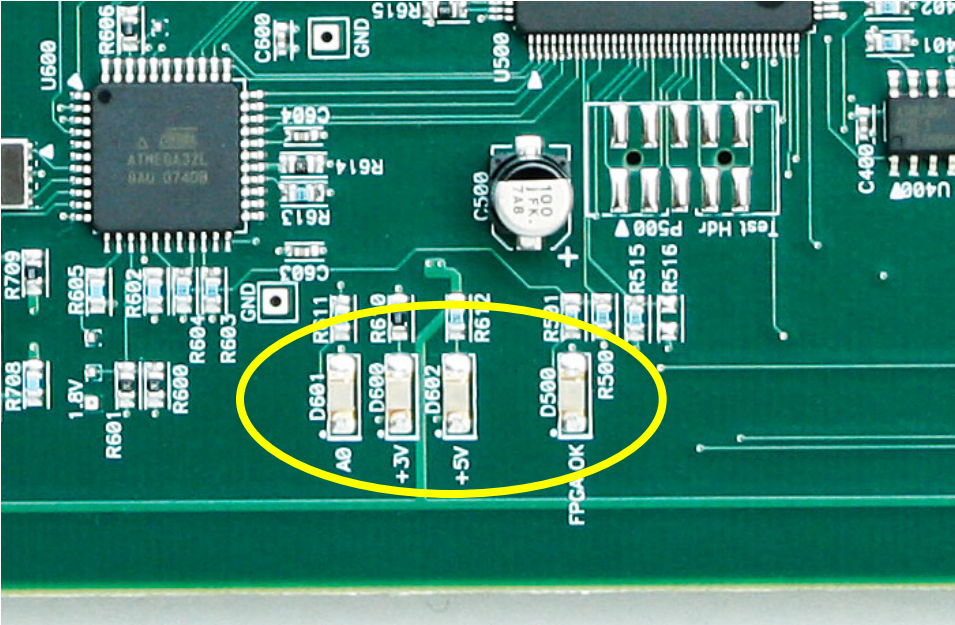

Figure 5 BVID LED indicators A0, +3V, +5V, and FPGA OK.
14. Wait at least one minute, and then observe that the state of the LEDs on the BVID circuit board (Figure 5) is as follows: